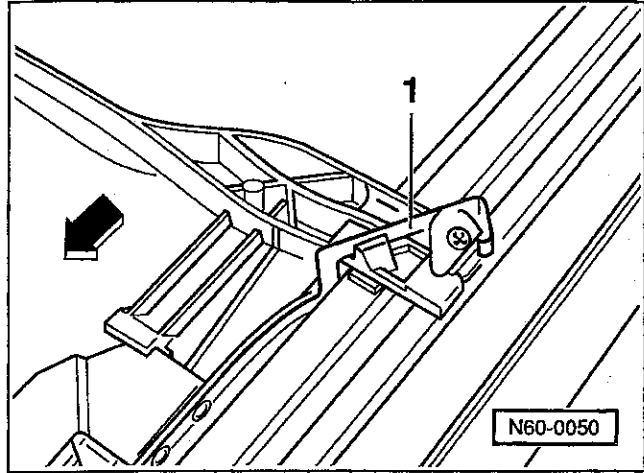

Fig. 12. Release left and right springs (1) and pull headliner forward and out of roof cut-out.
3. Remove screws that release headliner springs on both sides and pull headliner forward out of roof cutout. See Fig. 12.